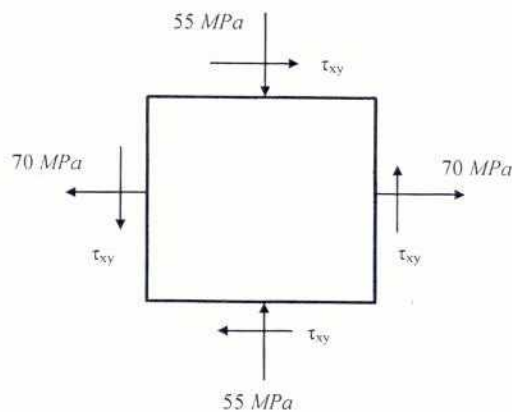

Figure 4
- Q4 For the state of plane stress shown **Figure 4**, determine (1) the largest value of  $\tau_{xy}$  for which the maximum in-plane shearing stress is equal to  $82 \text{ MPa}$ , (2) the corresponding principal stresses and principal planes, (3) plane of maximum shear stress (4) the state of stress at  $30^\circ$ . Represent all the stresses on properly oriented elements. (20)